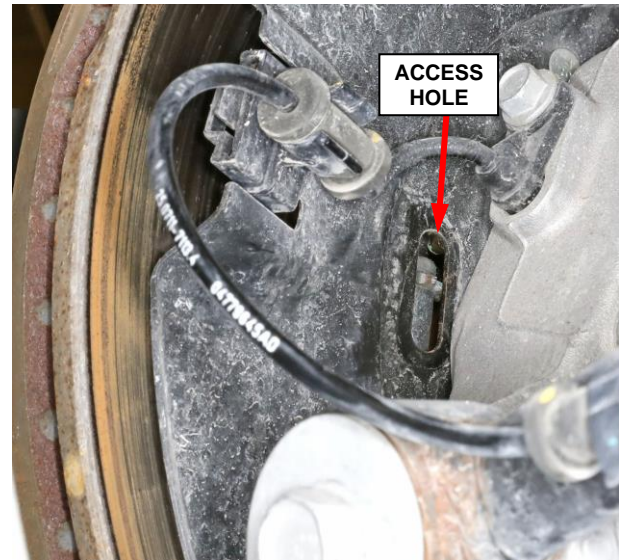

Figure 1 – Access Hole with Plug Removed (Star-wheel visible)
3. Remove plug in parking brake shoe support to access adjuster star-wheel (1) (Figure 1).
NOTE: Through the access hole (2), rotate the adjuster star wheel (1) in the following direction to expand the shoes outward against the drum (Figure 1).
4. Using an appropriate tool, turn adjuster star wheel (1) until wheel will not rotate (dead lock) (Figure 1).